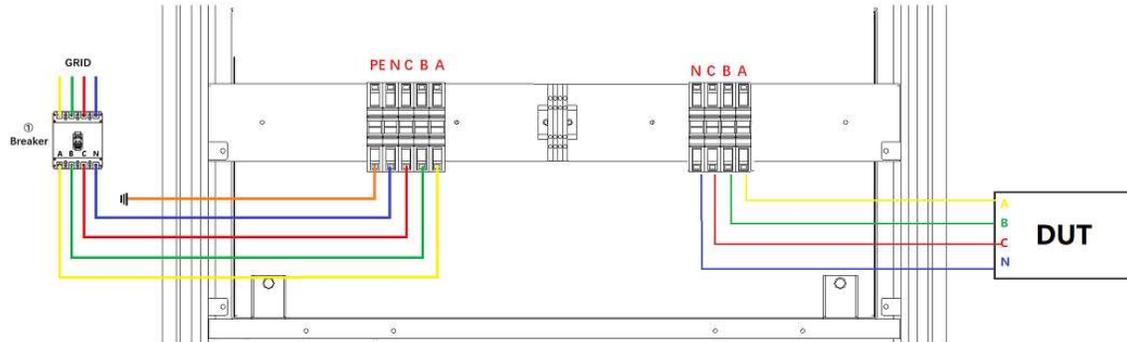

Figure 3-1 Equipment and the circuit breaker (Default AC output)
After completing the installation, close the circuit breaker on the distribution side (Figure 3-1①).